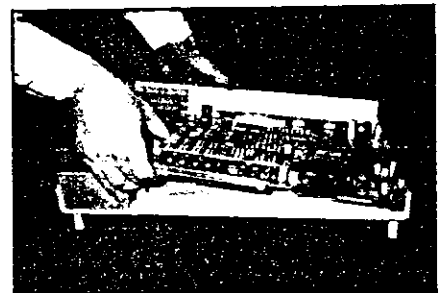

Fig. 2-13. PCB Removal
**2.6.3** Gently lift the PCB from the bottom case. To clear the mouse connectors, you will have to lift the power supply side of the board up first and lightly push the right-side bottom housing away from the PCB. The rear panel housing will come off with the PCB and may require slight pressure during PCB removal to keep it from binding in it's tracks, as shown in Fig. 2-13.